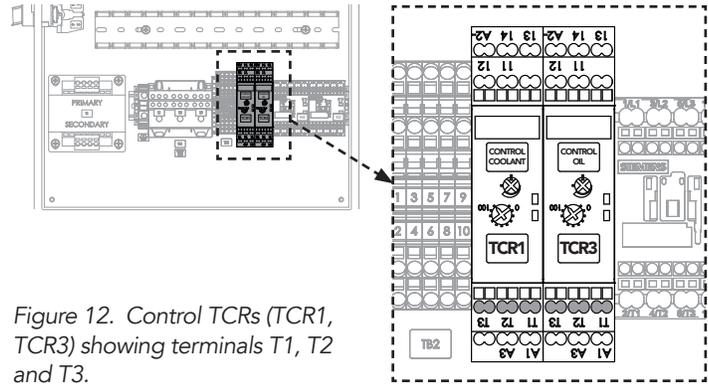

Figure 12. Control TCRs (TCR1, TCR3) showing terminals T1, T2 and T3.
3. Using the ohmmeter, measure the resistance between TCR terminals **T1** and **T2**. (See Figure 12.)